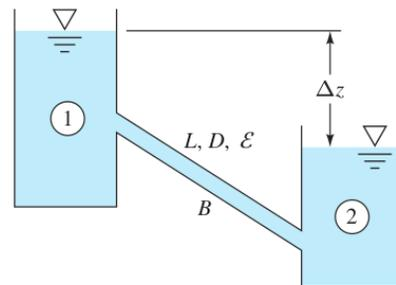

Fig. 6.8
- 6.8 The reservoirs in Fig. 6.8 contain water at 20°C. If the pipe is smooth with $L = 4500$ m and $d = 4$ cm, what will the flow rate in m³/h be for $\Delta z = 100$ m?